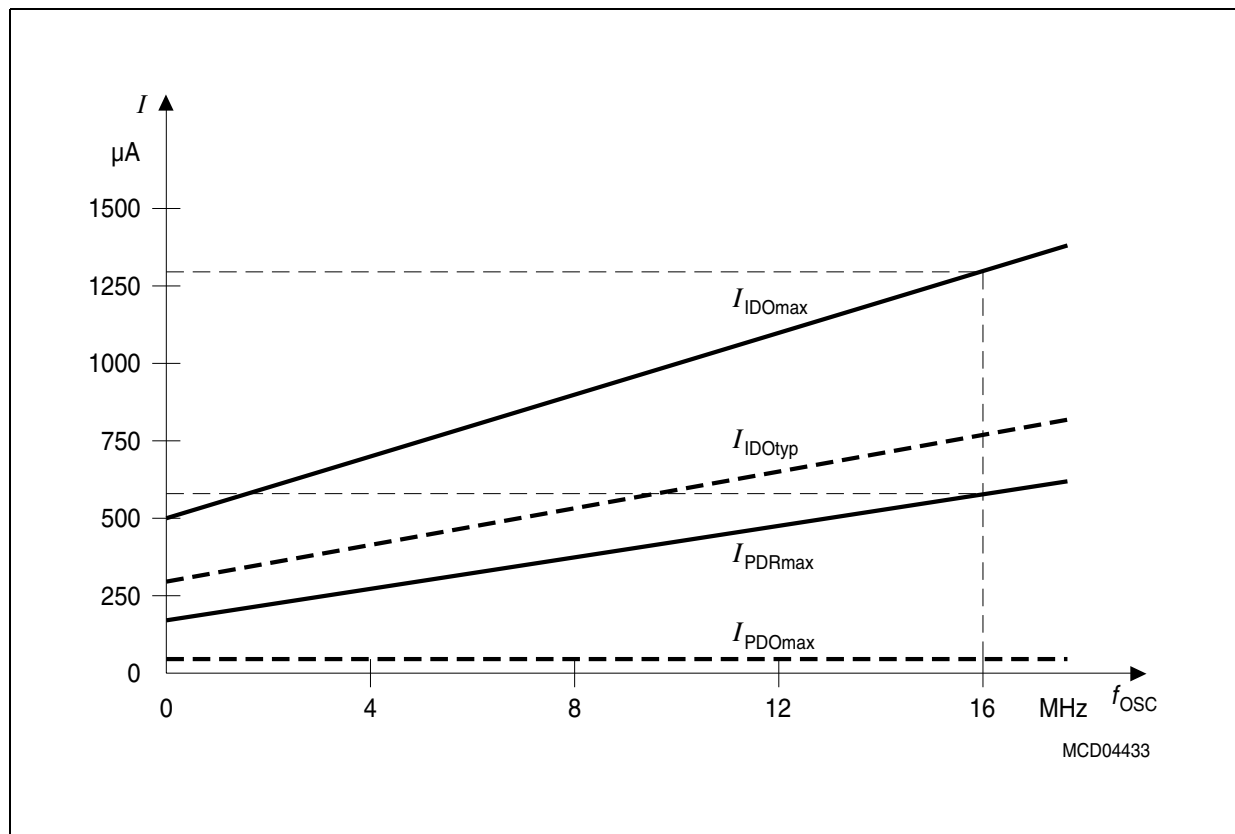

Figure 8 Idle and Power Down Supply Current as a Function of Oscillator Frequency
2) This parameter is determined mainly by the current consumed by the oscillator (see Figure 8). This current, however, is influenced by the external oscillator circuitry (crystal, capacitors). The values given refer to a typical circuitry and may change in case of a not optimized external oscillator circuitry.
- 2) This parameter is determined mainly by the current consumed by the oscillator (see Figure 8). This current, however, is influenced by the external oscillator circuitry (crystal, capacitors). The values given refer to a typical circuitry and may change in case of a not optimized external oscillator circuitry.